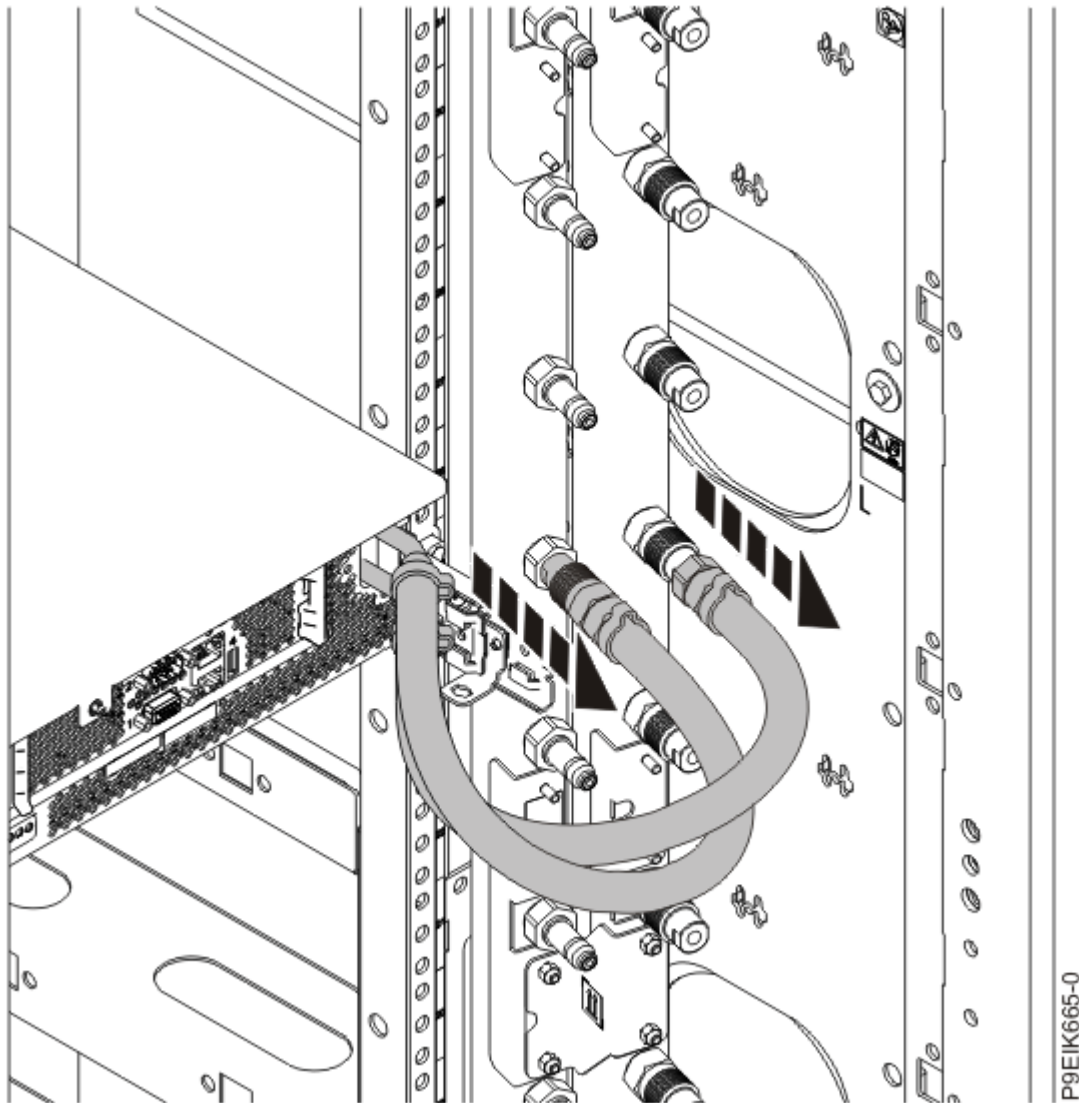

Figure 103. Disconnecting the water hoses
2. For a water-cooled system, label and disconnect the water hoses at the manifold. Pull the coupling toward you to disconnect the water hoses as shown in Figure 103 on page 131.